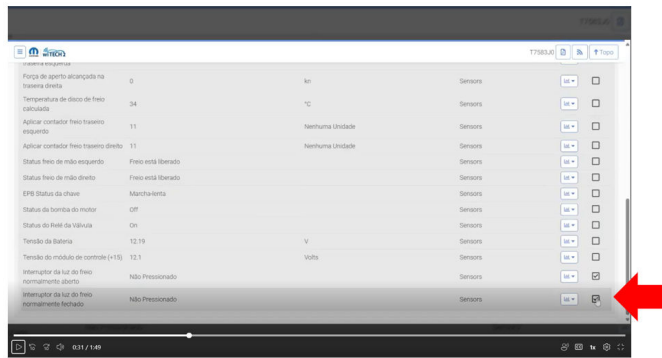

Fig. 4
- 6. Select the brake light switch in the DATA function, the two options normal open and normal closed Fig. 4.